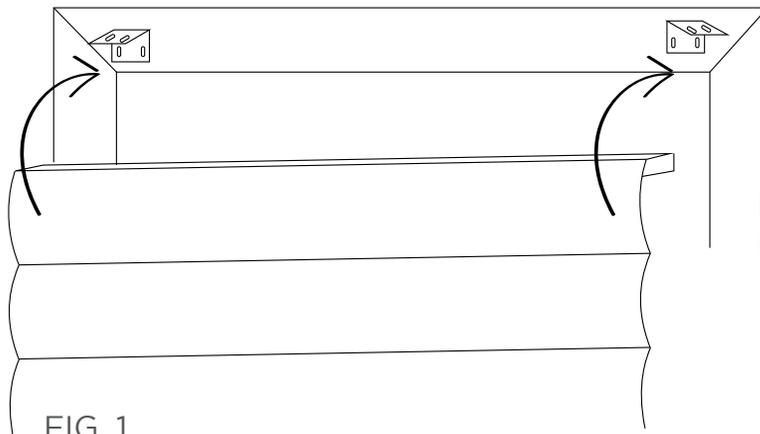

FIG. 1
- Hook the front of the track into the forward lip of the bracket (FIG.1)